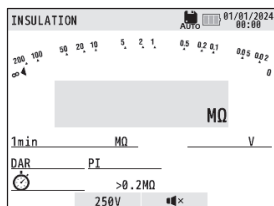

Fig. 15-4
- (1) Hold down (1 sec. or longer) the MEM switch in the stand-by mode. (Fig. 15-4)